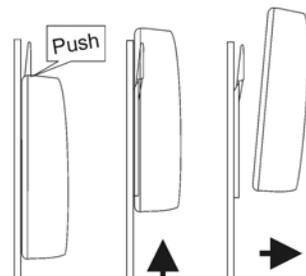

Fig. 4
5. To release the Hull Transmitter press lightly on the bracket tab and slide the Transmitter up until it can be pulled away from the surface. (Fig. 4)